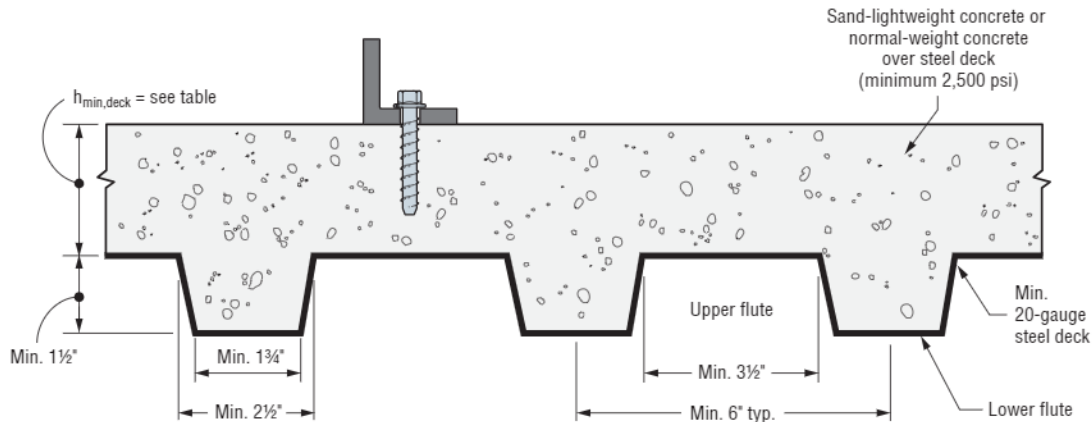

Figure 1. Installation of ¼"-, ⅜"- and ½"-Diameter Anchors in the Topside of Concrete over Steel Deck
- For anchors installed in the topside of concrete-filled deck assemblies, as shown in Figure 1, the nominal concrete breakout strength of a single anchor or group of anchors in shear, V_{cb} or V_{cbg} , respectively, must be calculated in accordance with ACI 318-14 Section 17.5.2 or ACI 318-11 Section D.6.2, using the actual member thickness, $h_{min,deck}$, in the determination of A_{vc} .
- Minimum flute depth (distance from top of flute to bottom of flute) is 1 ½" (see Figure 1).
- Minimum concrete thickness ($h_{min,deck}$) refers to concrete thickness above upper flute (see Figure 1).